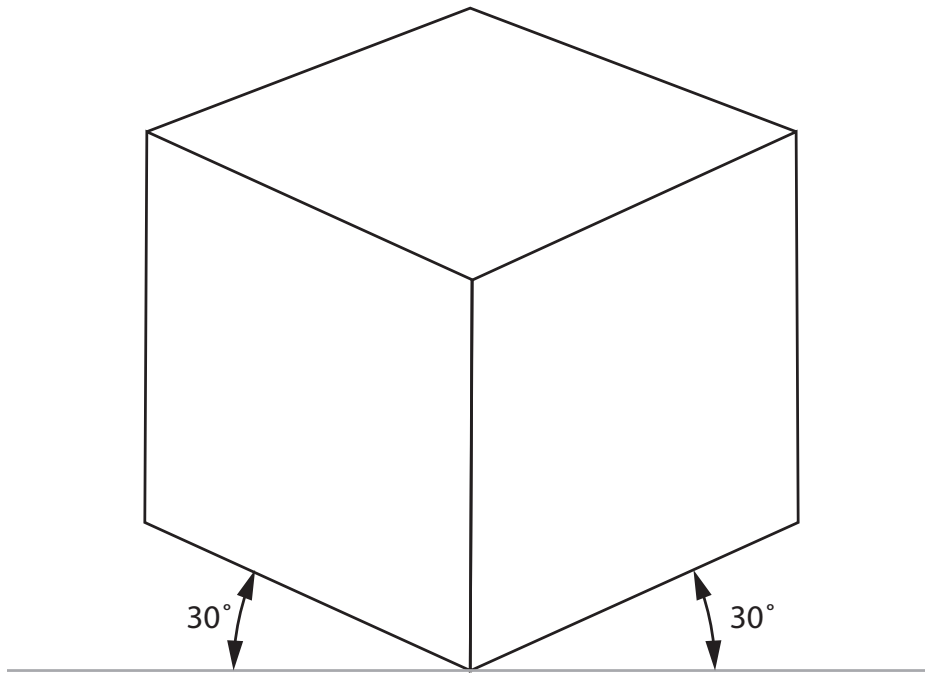

Figure 3
- 2 Figure 3 shows a drawing of a fabric play cube for young children.
- (a) Name the communication technique that has been used to produce the drawing shown in Figure 3.